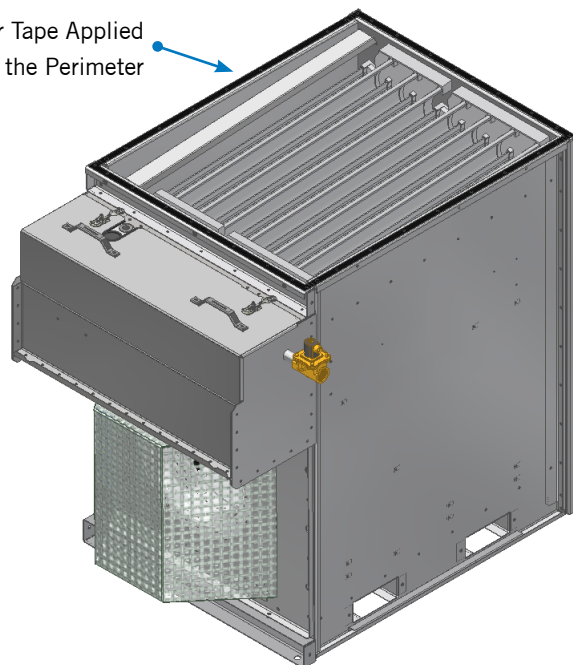

Figure 3a. Applying Sealer Tape to the Lower Fan Section
1. Apply sealer tape around the perimeter of the lower fan section as shown on **Figure 3a**. Be sure to overlap sealer tape anywhere two ends meet by 1 inch, including in the corners.